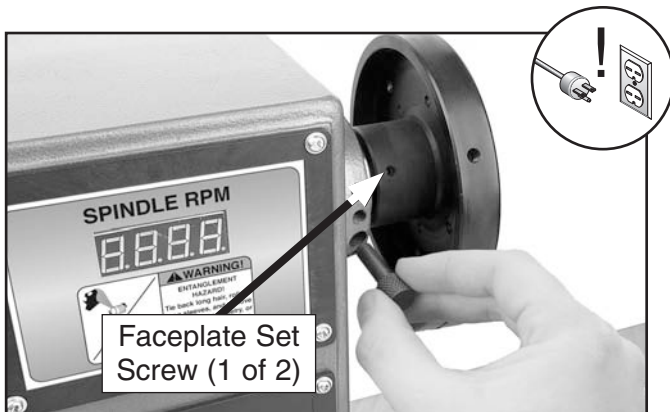

Figure 26. Locking spindle with indexing pin and faceplate set screw location.
2. Insert the indexing pin into one of the indexing holes and rotate the spindle until the pin engages to prevent the spindle from turning while you tighten the faceplate, as shown in **Figure 26**.
4. Using the included 4mm hex wrench, tighten the two set screws along the inside diameter of the faceplate to secure it to the spindle (see **Figure 26**).